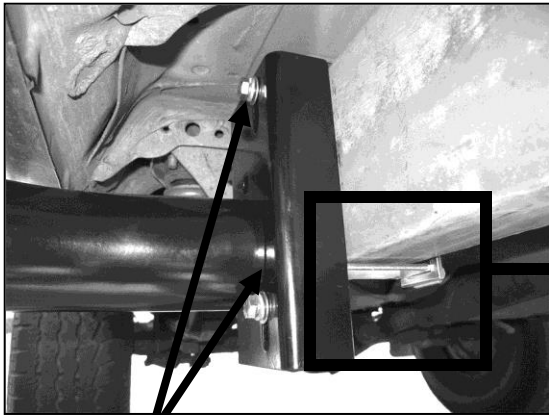

**Figure 5**
6. With help, position the Sidebar up to vehicle frame and place top hole of front Mounting Bracket over previously installed Bolt Plate. Secure Mounting Bracket to Bolt Plate using the included (1) 12mm Hex Nut, (1) 12mm Lock Washer, and (1) 12mm Flat Washer (**Figure 5**). Do not tighten at this time.